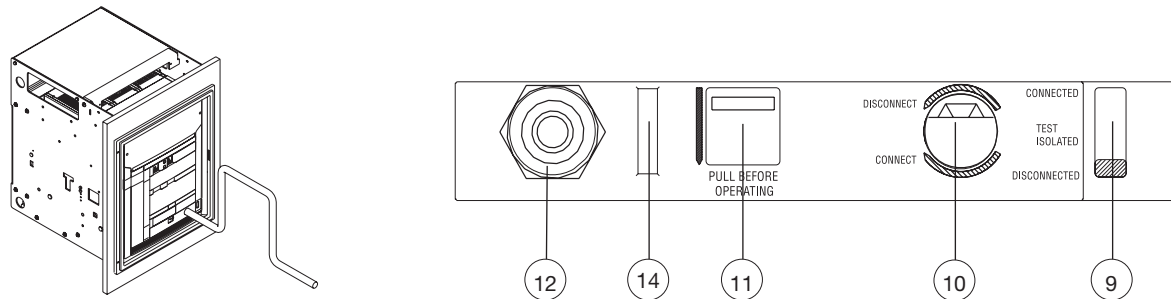

Fig. 33
- Remove the flange (1) of the release by turning the screws (2) as shown in figure 33.
- Remove the front escutcheon plate (3) by removing the four screws (4).